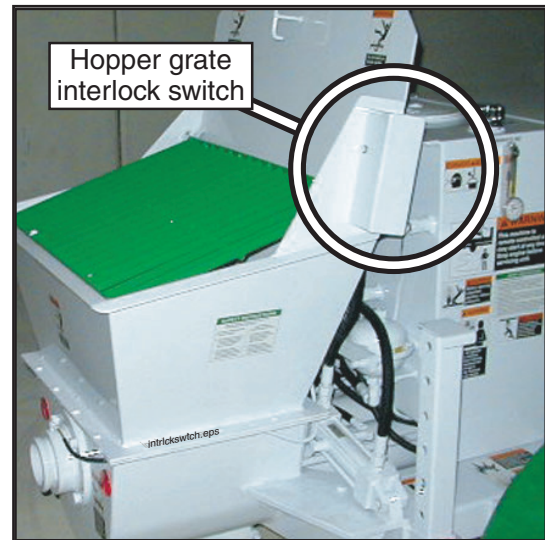

Figure 24
- Leave the hopper grate in place. Spray water through the grate into the hopper to clean concrete out of the corners and the concrete valve. If you need to rotate the hopper grate to the open position to chip away hardened concrete or for any other reason, the pump must be stopped. To assure that this is done, the electrical supply to the concrete pump circuit is connected through an interlock switch on the hopper grate. The pump will not operate unless the hopper grate is shut, and the pump will stop if you rotate the grate open while it is running. Do NOT disable or bypass the hopper grate interlock switch. It was installed for your protection (Figure 24).